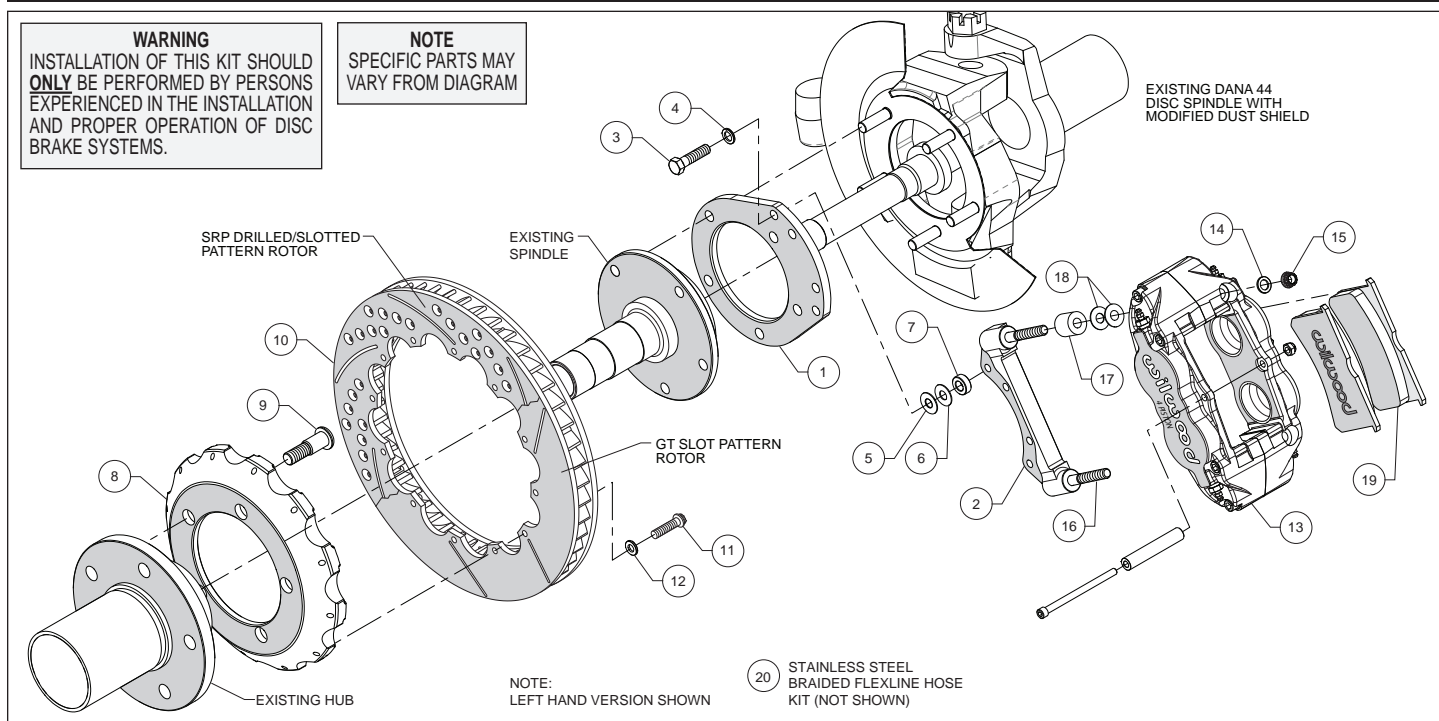
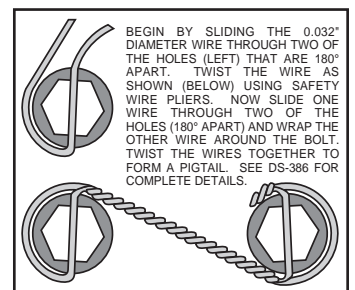

Figure 1. Typical Installation Configuration
Figure 4. Safety Wire Diagram
**Assembly Instructions** (numbers in parenthesis refer to the parts list and Figure 1 on the preceding pages):
- Orient the flat mount bracket (1) as shown in Figure 1 and Photo 1. Install the OEM spindle over the bracket and secure with OEM nuts, Photo 2. Temporarily tighten the mounting nuts. **NOTE:** *The bracket must fit squarely against the mount bosses on the upright.* Inspect for interference from casting irregularities, machining ridges, burrs, etc. Remove nuts one at a time, apply red *Loctite*® 271 to the bolt threads and torque nuts to OEM specification.
- The caliper mount bracket (2) should initially be installed with clean, dry threads on the mounting bolts. Orient the bracket as shown in Figure 1 and Photo 3, and install using mount bolts (3) and washers (4). Initially place one .035" thick shim (5) and spacer (7) on each bolt between the flat and caliper brackets, Figure 1. Temporarily tighten the mounting bolts. Later, after the caliper alignment has been checked, the mount bolts will be secured using red *Loctite*® 271.
- Orient the hat (8) and the OEM hub as shown in Figure 1 and Photo 4. **NOTE:** *The hat must fit flush against the hub or excessive rotor run out may result.* Install the wheel studs (9) thru the holes in the hat and press into the existing hub. **NOTE:** *We recommend this procedure be performed by a qualified machinist.*
- Orient the rotor (10) and the hat/hub assembly as shown in Figure 1 and Photo 5. Attach rotor to hat using bolts (11) and washers (12). Using an alternating sequence, apply red *Loctite*® 271 to the threads, and torque to 155 **in-lbs**. For an added measure of security, the bolts may be safety wired using standard 0.032 inch diameter stainless steel safety wire as shown in Figure 4. Please refer to Wilwood's data sheet DS-386 (available at [www.wilwood.com/Pdf/DataSheets/ds386.pdf](http://www.wilwood.com/Pdf/DataSheets/ds386.pdf)) for complete safety wire installation instructions.
- Lubricate the caliper mounting studs (16) with lightweight oil. Initially place two .035" thick shims (18) and spacer (17) on each stud as shown in Figure 1 and Photo 6. Mount the caliper (13) onto the bracket (2) using lock nuts (15) and washers (14), Figure 1. Temporarily tighten the lock nuts and view the rotor through the top opening of the caliper. The rotor should be centered in the caliper, Photo 7. If not, adjust by adding or subtracting shims (5 and/or 6) between the spindle bracket and caliper bracket. Always use the same amount of shims on each of the four mounting bolts. Once the caliper alignment is correct, remove the bracket to bracket mounting bolts (3) one at a time, apply red *Loctite*® 271 to the threads, and torque to 35 ft-lb.